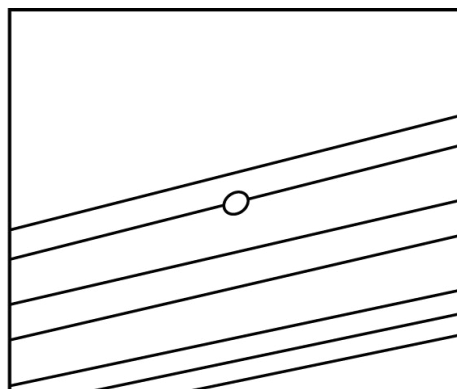

Fig.24
4. Use a 1/4" round file to remove any sharp burrs around the edges of the holes **(Fig.24)**.